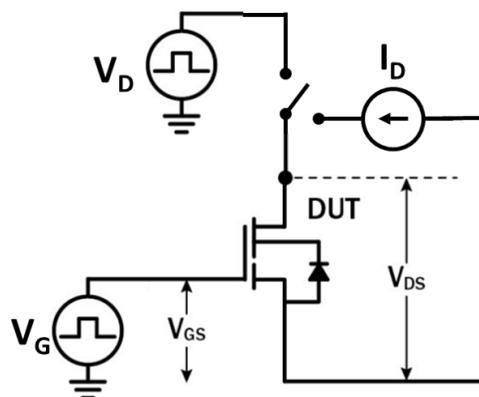

Figure 18. Dynamic $R_{DS(on)eff}$ Test Circuit
g. Dynamic $R_{DS(\text{on})}$, 100% tested; see Figures 18 and 19 for conditions